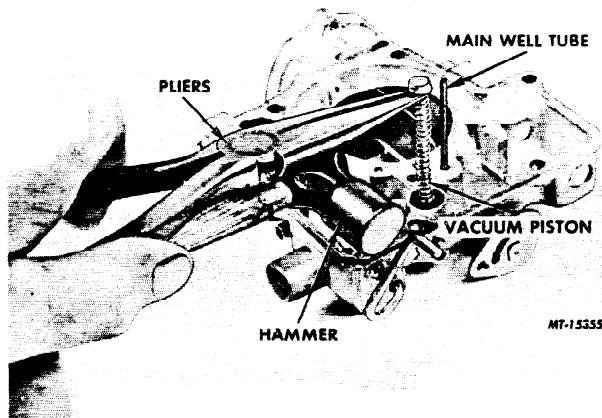

FIG. 23 Removing the Vacuum Piston Assembly
8. With a suitable puller or long nosed pliers and support, remove the vacuum piston assembly (Figure 23).